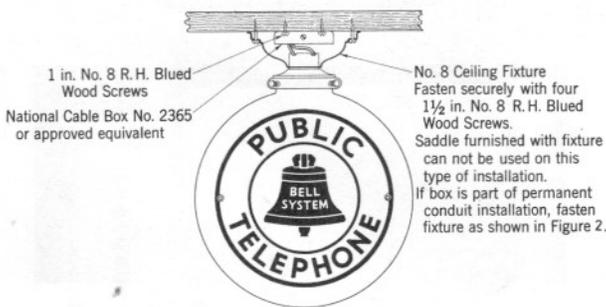

Fig. 12 – No. 8 Sign – Ceiling Installation
- The No. 8 sign may be installed as shown in Figs. 12, 13, 14, and 15 (see Table D for fastening devices).